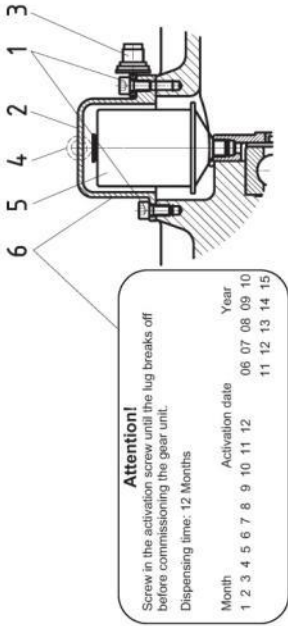

Figure 4-1: Activating the automatic lubricant dispenser with standard motor mounting
Screw-off the cartridge case cover (2), (see Fig. 4-1). The lubrication dispenser (5) is screwed out and replaced with a new component (Part No. 283.0100). Then activate (see Chapter 4.2)